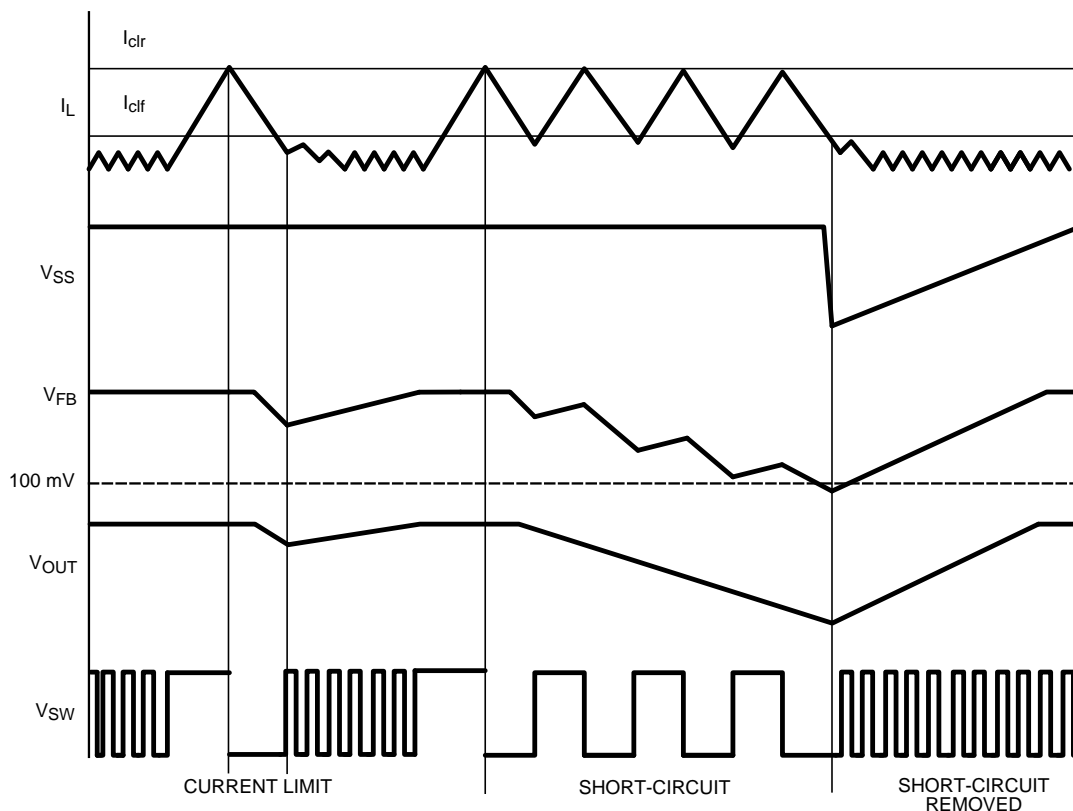

Figure 25. Current Limit Conditions
A current limit condition will cause the internal soft-start voltage to ramp downward. After the internal soft-start ramps below the Feedback (FB) pin voltage, (nominally 0.6 V), FB will begin to ramp downward, as well. This voltage foldback will limit the power consumption in the device, thereby protecting the device from continuously supplying power to the load under a condition that does not fall within the device SOA. After the current limit condition is cleared, the internal soft-start voltage will ramp up again. Figure 25 shows current limit behavior with  $V_{SS}$ ,  $V_{FB}$ ,  $V_{OUT}$  and  $V_{SW}$ .